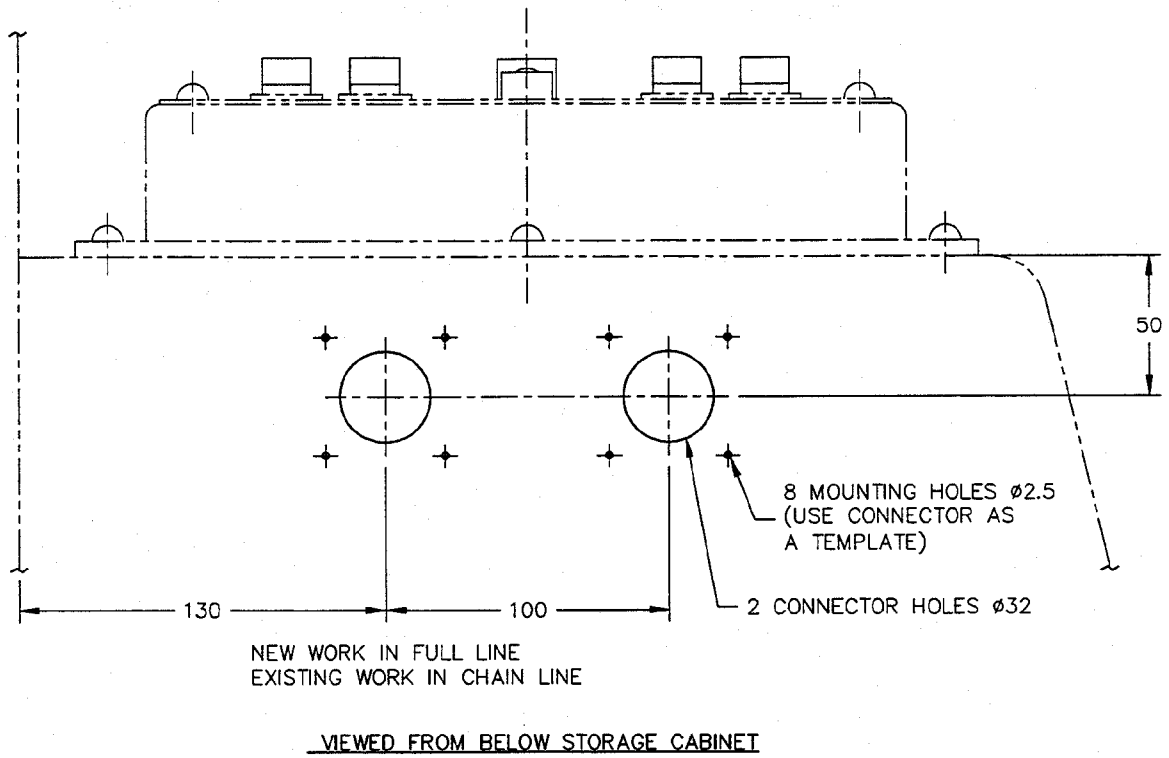

Figure 1 - Location of Mounting Holes
- e. Measure the position for the holes on the bottom face of the switch panel assembly, as shown in Fig 1.
- g. Using a 2.5 mm drill, pre-drill the connector securing holes, as shown in Fig 1.